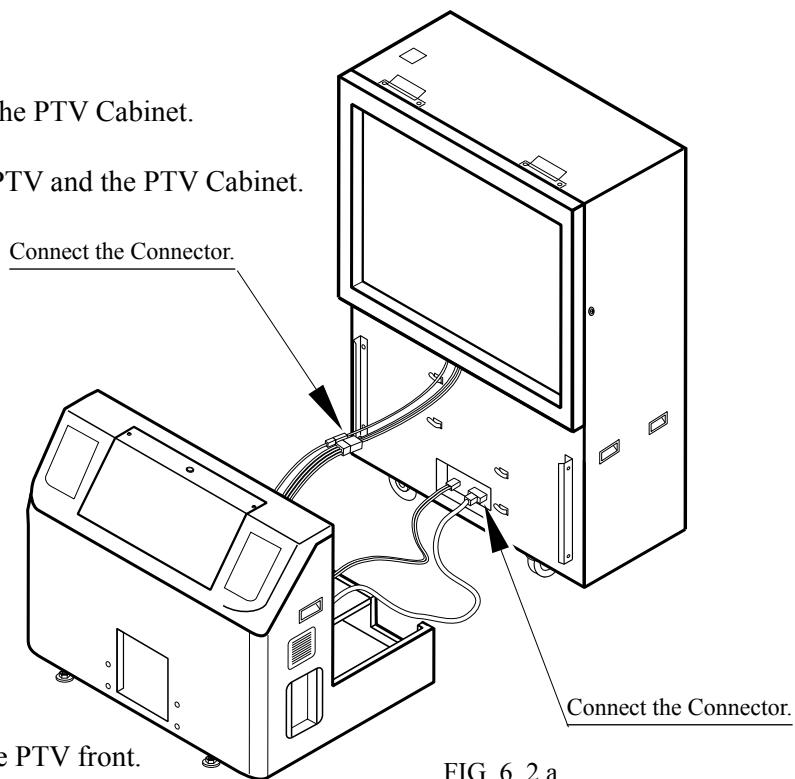

FIG. 6. 2 a
- There are 4 cord clamps in the PTV front. By using the 4 cord clamps, secure the wiring as per the Figure. (FIG. 6. 2 b)